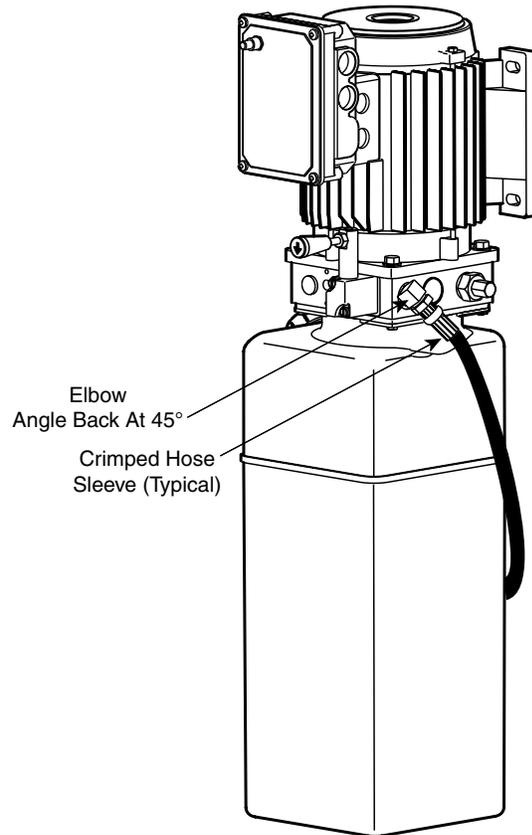
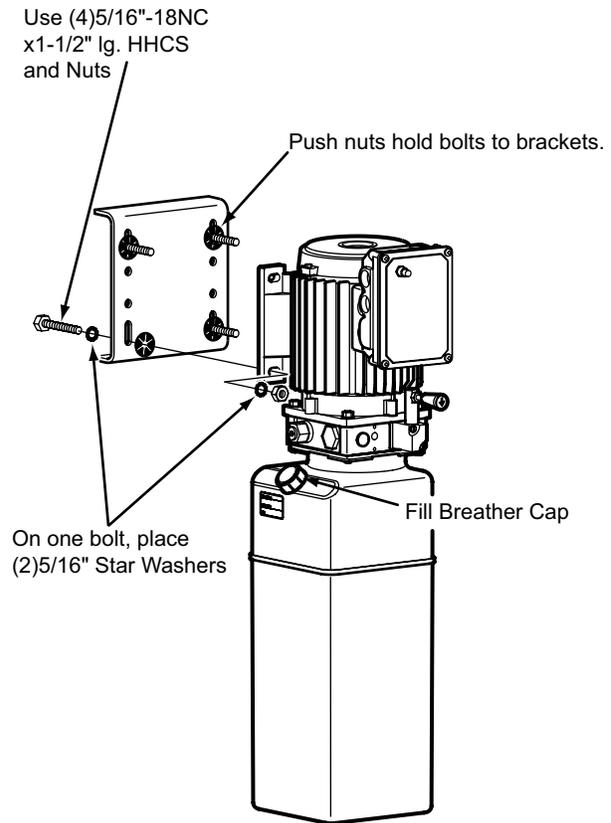
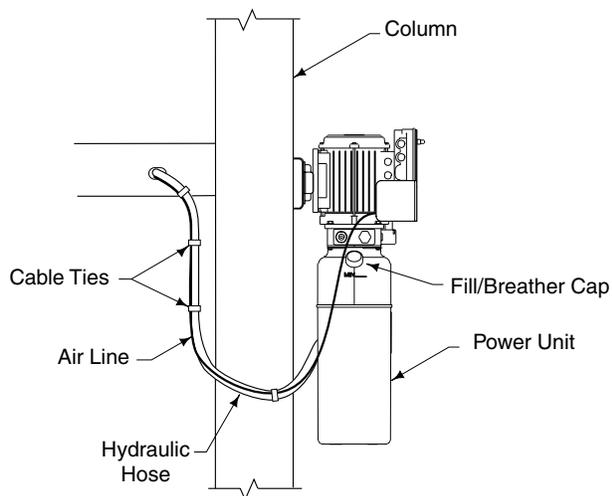
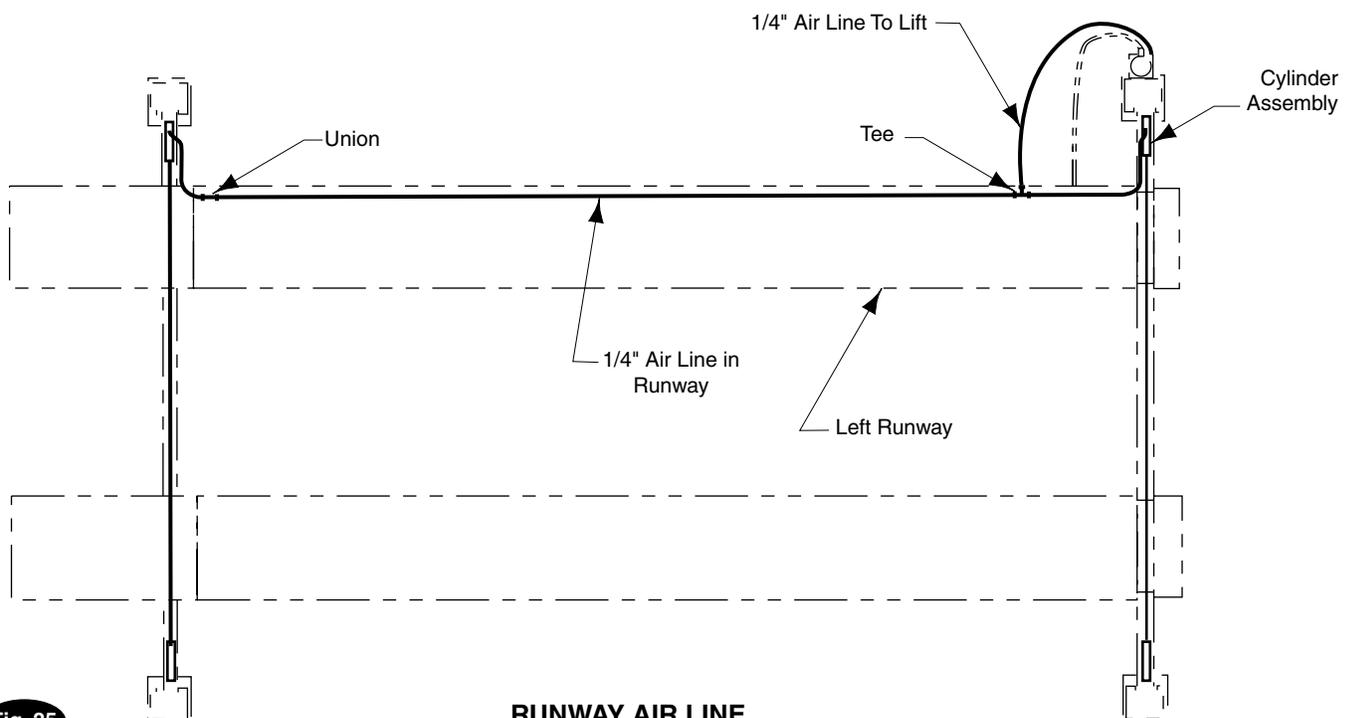

Fig. 17
Fig. 18
Fig. 19
Fig. 25
- A. Put (4) 5/16" x 1-1/2" hex bolts through holes in column bracket using push nuts to hold in place.
- B. Mount power unit with motor up, Fig. 18 to column bracket and install lock washers and nuts. Run hydraulic hose from runway through slot in side of runway to power unit output port, Fig. 19. DO NOT use Teflon tape on hydraulic hose connections.
- C. Install and hand tighten elbow to pump until O-ring is seated and elbow should be oriented downward at approximately 45°, Fig. 17. Tighten locknut to 35-40 ft. lbs. Install enclosed Capacity label on power unit, Fig. 18.
12. Hydraulic Fluid Filling: System capacity is thirteen (13) quarts. Use Dexron III ATF. Remove fill/breather, Fig. 19. Pour in thirteen (13) quarts of fluid. Replace fill/breather. Start motor and raise lift to full rise. Lower onto latches.
Note: If fill/breather, Fig. 19, is lost or broken, order replacement.
- F. Attach enclosed NP280 decal ("PUSH TO RELEASE LATCHES") below button on air valve bracket, Fig. 17. Run 1/4" air line from air valve to the slot in the fixed runway. Cut airline and attach a Tee, Fig. 25, 22.
- G. Run 1/4" air line from the Tee in the front yoke through air output on the air valve, Fig. 22, and Fig. 25.
To pressure test, run lift to full rise and run motor for approximately 5 seconds. Stop and check all fittings and hose connections. Tighten or reseal if required. Lower lift. If fill/breather, Fig. 19, is lost or broken, order replacement.